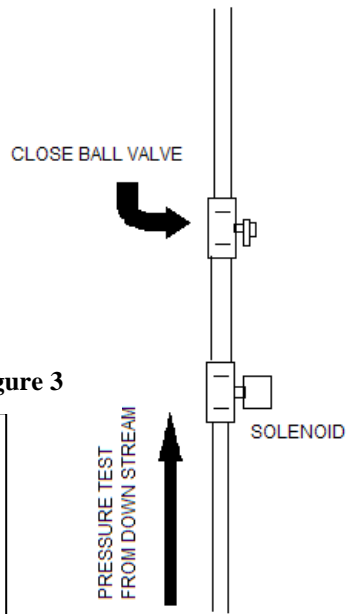

Figure 3
*ISIMET* recommends that the primary piping system (prior to the solenoid) be tested separately from the downstream piping beyond the solenoid valve. Refer to Figure 3.